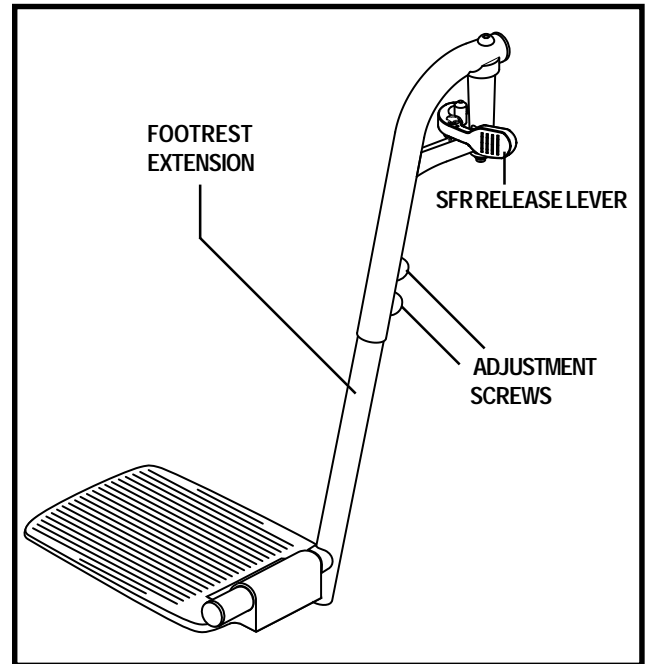

Figure 16. Swing-away Footrest Adjustment
1. Push in the release lever. See figure 16.
1. Remove the two adjustment screws from the side of each footrest extension. See figure 16.